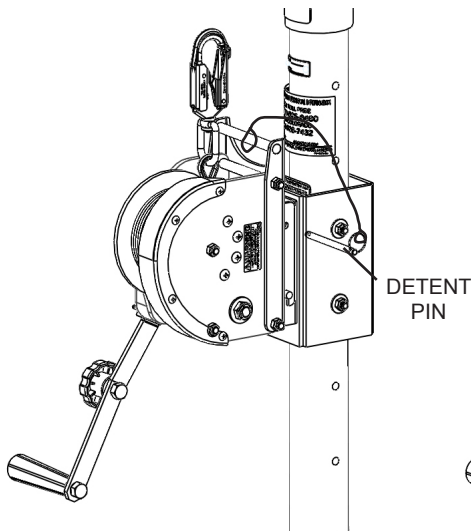

Figure 5i: PH Series Hoist Detent Pin
- i) Remove the detent pin. See Figure 5i.